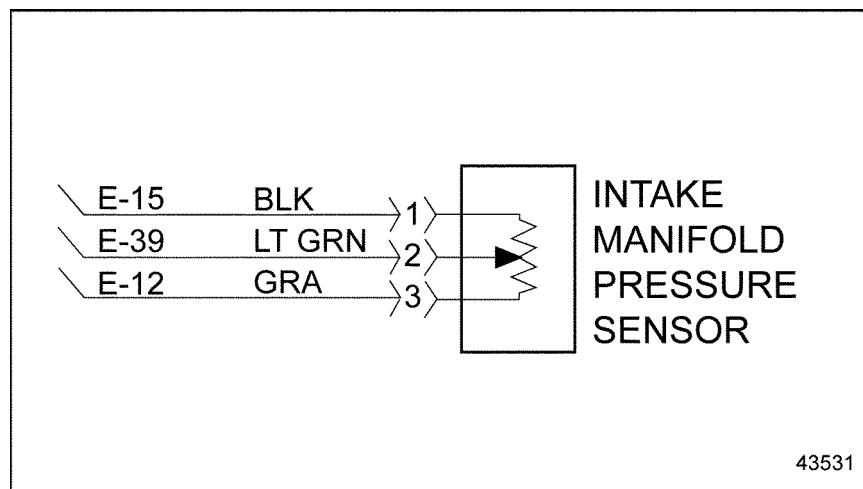

Figure 37-3 Turbo Boost/Intake Manifold Pressure Sensor
3. Install a jumper wire between pins 1 and 2 of the TBS/IMP Sensor harness connector. See Figure 37-3.